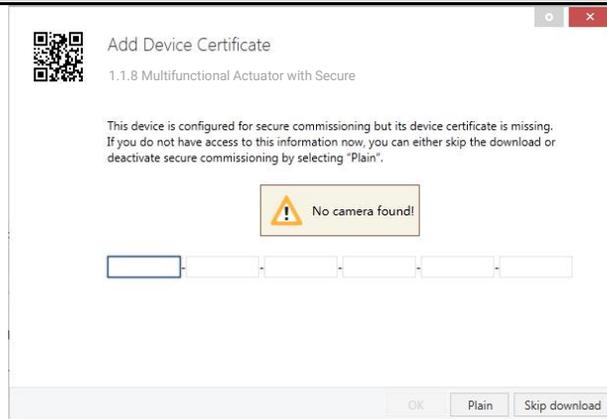

Fig.4.1(2) Add Device Certificate window
- ✧ Alternatively, the certificates of all Secure devices can be entered in the ETS beforehand. This is done on the "Security" tab on the project overview page, as shown in Fig.4.1(3) below.